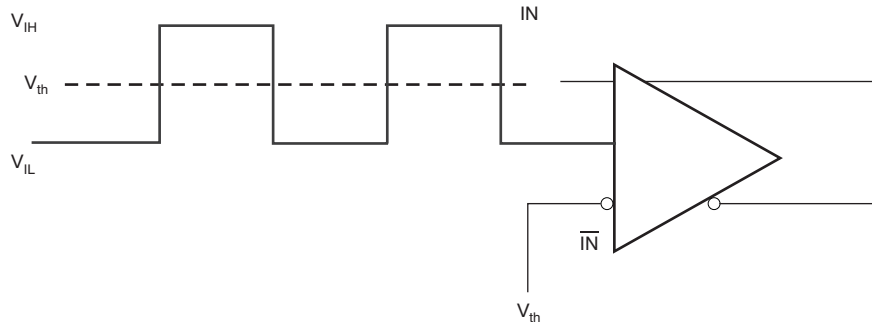
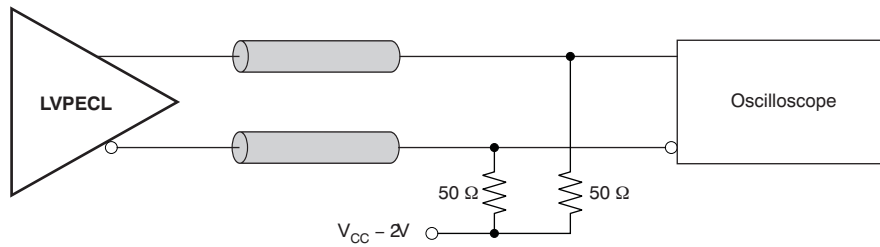
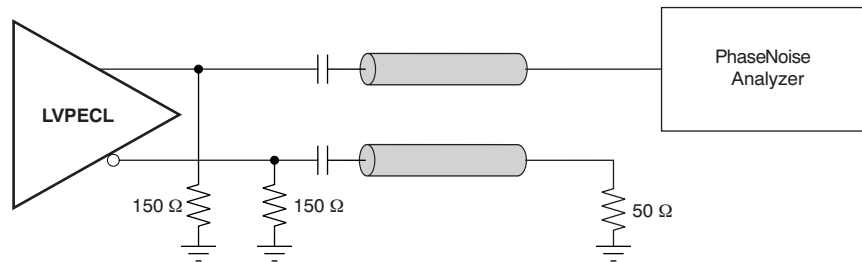

Figure 3. DC-Coupled LVCMOS Input During Device Test
Figure 8. LVPECL Output DC Configuration During Device Test
Figure 9. LVPECL Output AC Configuration During Device Test
(1) Figure 8 and Figure 9 show dc and ac test setup.
This section describes the function of each block for the CDCLVP1216. Figure 3 through Figure 9 illustrate how the device should be setup for a variety of test configurations.